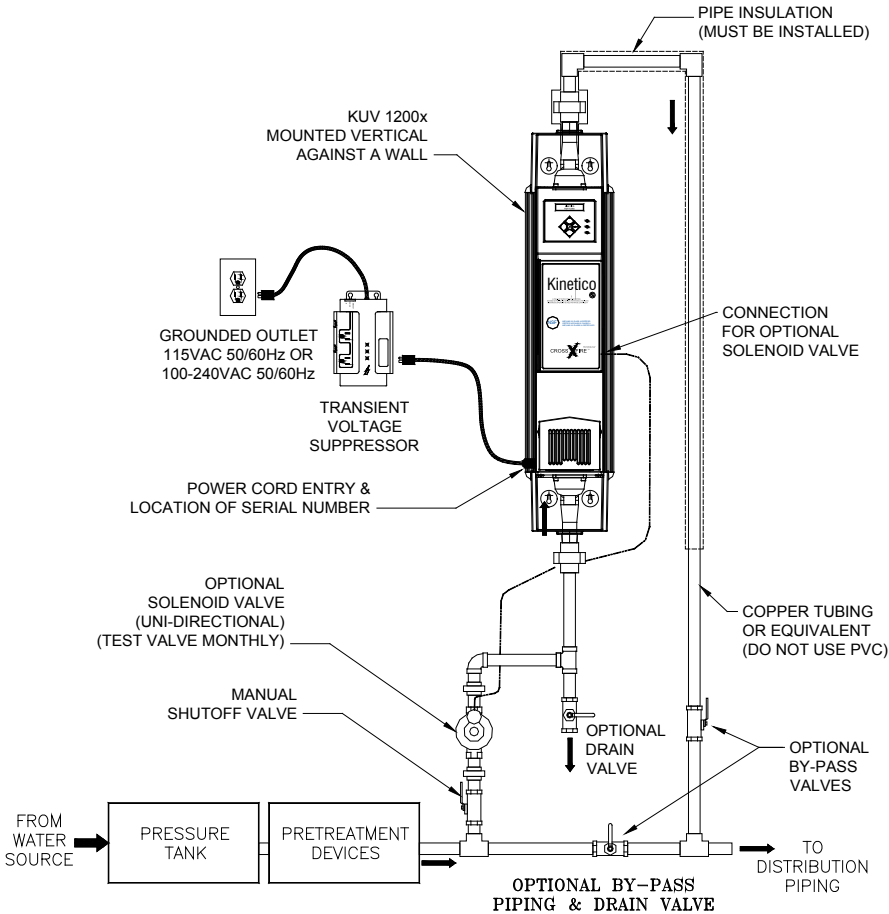

Figure 1B
There are two standard operating voltages for the UV unit. The unit may be 115 VAC, 60 Hz or 100 – 240 VAC, 50 Hz. Please refer to the power input label located near the power cord entry of the unit. See Figure 1B.
compatible with the plumbing should be on hand before you begin installation. See Figure 1B and make a list of all necessary components including solder, paste and thread sealant. By-pass piping and valves that isolate the unit are optional, (but recommended) as is a drain valve for draining the unit. Using a union or a flexible stainless hose at the top and bottom port of the unit is recommended to allow easier maintenance of the unit.
Step 2: If you have decided to install an optional by-pass line and drain valve, you may begin to install these fittings at this point. See Figure 1B for more information on how to connect optional by-pass piping and drain valve.
Step 2: Plug the female end of the power cord into the power entry module located on the left side of the front panel. The power cord must be removed before the front panel can be opened, in order to prevent risk of electrical shock and exposure to UV light. See Figure 1B. Plug the male end of the power cord into the Transient Voltage Surge Suppressor supplied. Plug the Transient Voltage Surge Suppressor into a grounded electrical outlet. Flip the switch on the Transient Voltage Surge Suppressor to ON position.